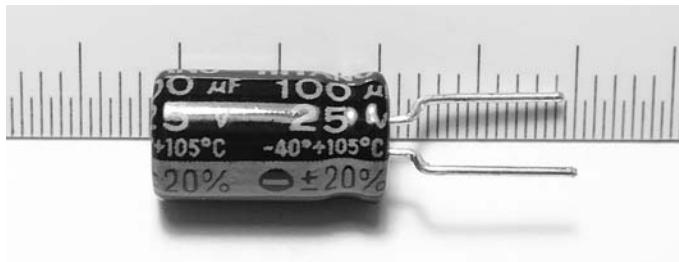

Figure 4-14: Electrolytic capacitor
*Electrolytic capacitors*, like the one shown in Figure 4-14, are physically larger than ceramic types, offer increased capacitance, and are polarized. A marking on the cover shows either the positive (+) side or negative side (−). In Figure 4-14, you can see the stripe and the small negative (−) symbol that identifies the negative side. Like resistors, capacitors also have a level of tolerance with their values. The capacitor in Figure 4-14 has a tolerance of 20 percent and a capacitance of 100  $\mu\text{F}$ .